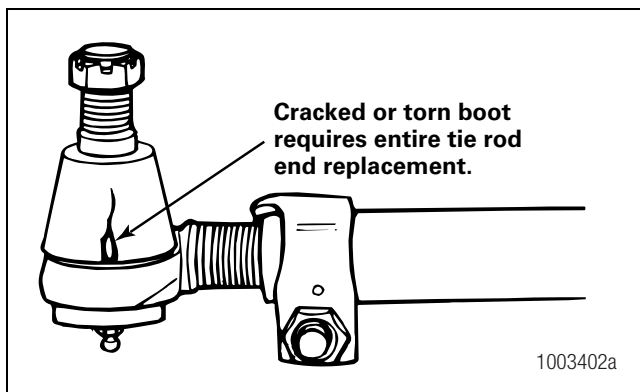

Figure 10.11
- Check for cracking or tears in the boot. Also check the boot seals for damage. Replace the entire tie rod end if the boot is damaged or missing. Figure 10.11.